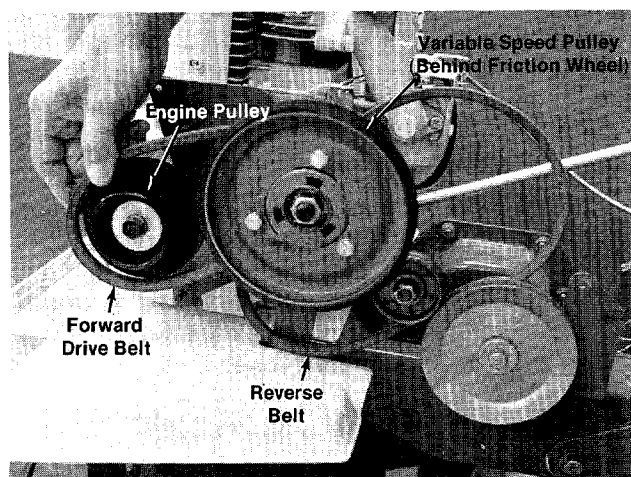

FIGURE 23.
2. Push the shift lever forward and lift off belt from Variable Speed Pulley and Engine Pulley. See figure 23.